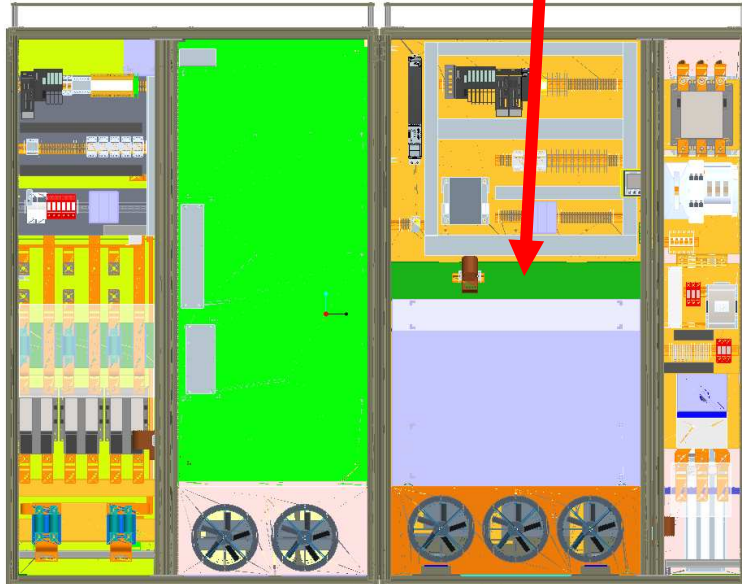

Figure 6-2 Cover plate for transport fixing
- Ensure two of the the conductor bars (accessories pack) have the isolator plates mounted on it (see green coloured parts on Figure 6-2).